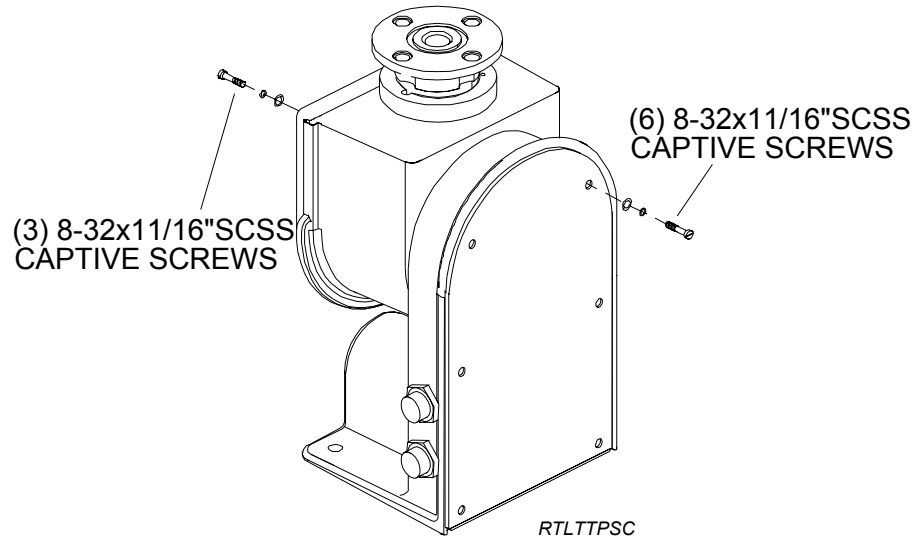

Figure 7.6 - Nine Remote Foot Cover Screws Installation
9. At tilt tub covers on remote version mounting foot, remove nine 8-32x11/16"PPSS captive screws and replace with nine 8-32x11/16"SCSS captive screws (Figure 7.6).